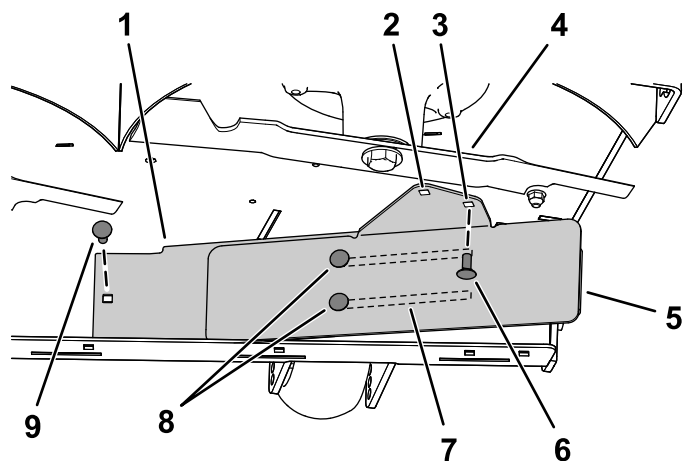

Figure 10
3. Install the left side of the baffle using a carriage bolt (5/16 x 3/4 inch) and flange nut (5/16 inch) as shown in Figure 10.
4. Loosen the 2 carriage bolts (5/16 x 3/4 inch) in the baffle slots, and slide the baffle until the hole aligns with the hole in the mower deck (Figure 10).
5. Install baffle as shown in Figure 10.
Important: Ensure that you use the correct hole for the baffle; refer to Figure 10.
6. Tighten the 2 carriage bolts (5/16 x 3/4 inch) in the baffle slots (Figure 10).